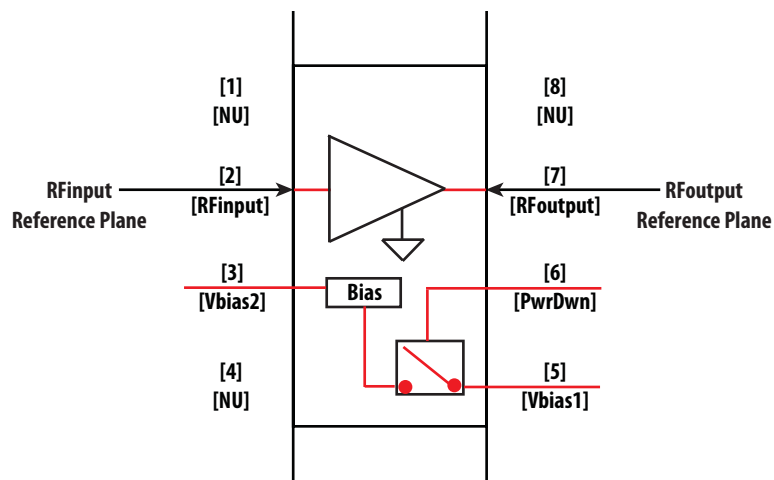

Figure 25. RFinput and RFoutput Reference Plane
2. Scattering and noise parameters are measured on coplanar waveguide made on 0.010 inch thick ROGER 4350. The input reference plane is at the end of the RFinpin and the output reference plane is at the end of the RFOutpin as shown in Figure 25.